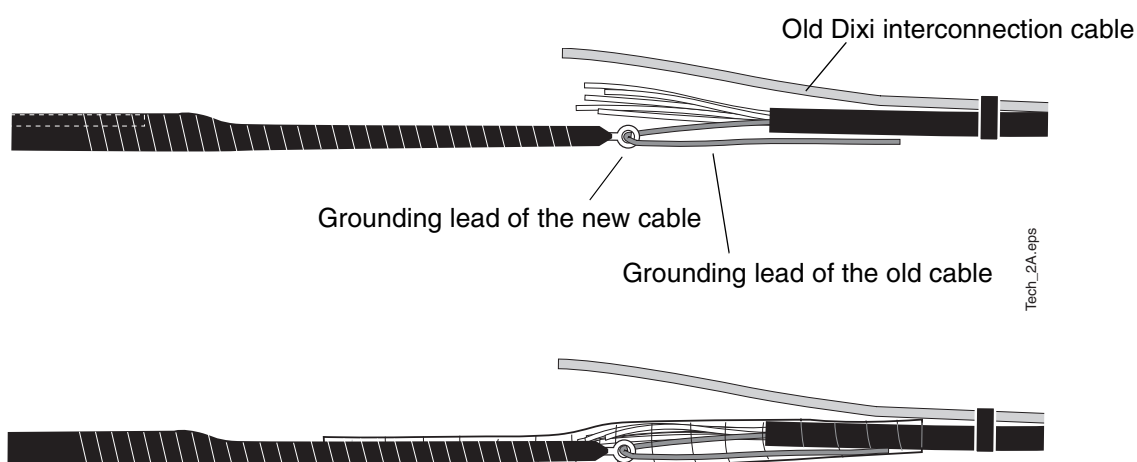

Figure 12
- j) Join the old and new cables together as shown in Fig. 12 below. Tape the joining point firmly. Do not tape the old Dixi interconnection cable, it is pulled out from the opening on the bracket arm (see figure Fig. 13)